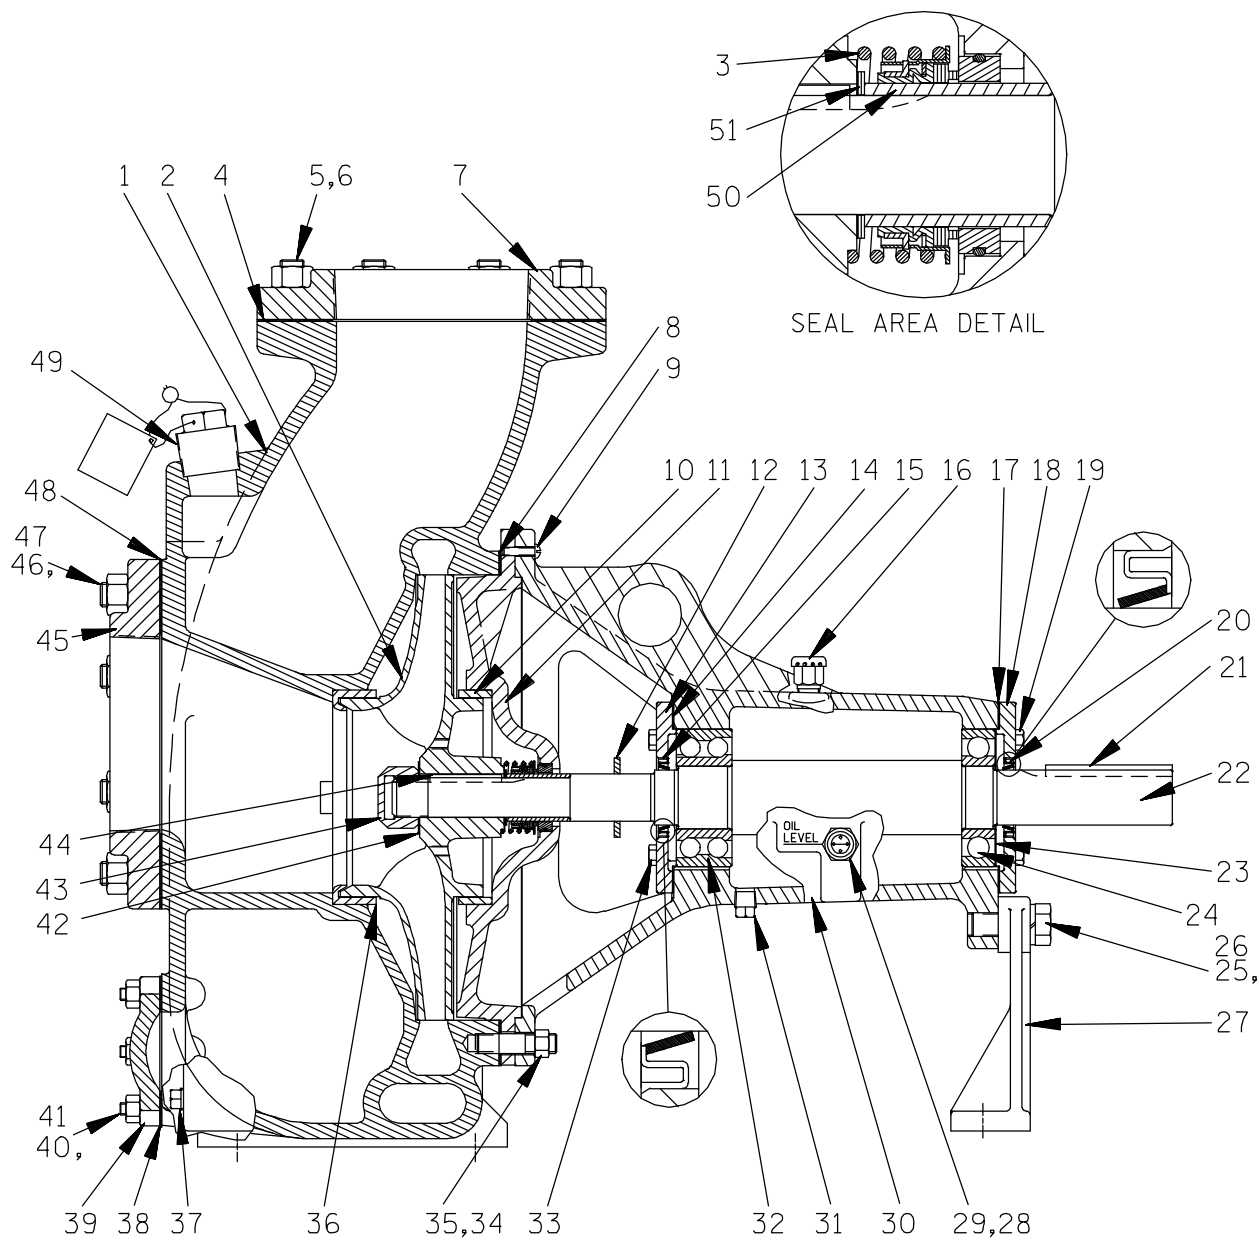

Figure 1. Pump Model 06B3-B
This pump requires little service due to its rugged, minimum-maintenance design. However, if it becomes necessary to inspect or replace the wearing parts, follow these instructions which are keyed to the sectional view (see Figure 1) and the accompanying parts list.
(Figures 1 and 3)
Position the oil seal (15) in the bearing cap (13) with the lip positioned as shown in Figure 1. Press the oil seal into the bearing cap until the face is **just flush** with the exterior surface of the bearing cap. Secure bearing cap gasket (14) and bearing cap to the pedestal with hardware (33).